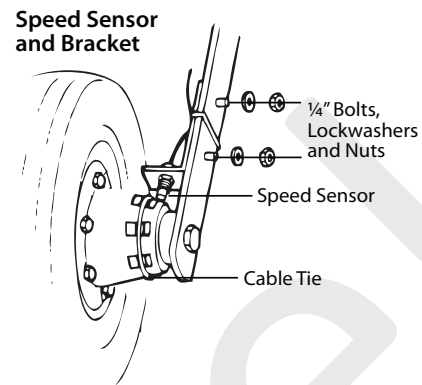

Figure 25
3. Install sensor, adjust to correct spacing ( $\frac{1}{4}$ " to  $\frac{1}{2}$ " or 6 to 13 mm is recommended), and secure with  $\frac{3}{8}$ " locking nuts. See Figure 25.